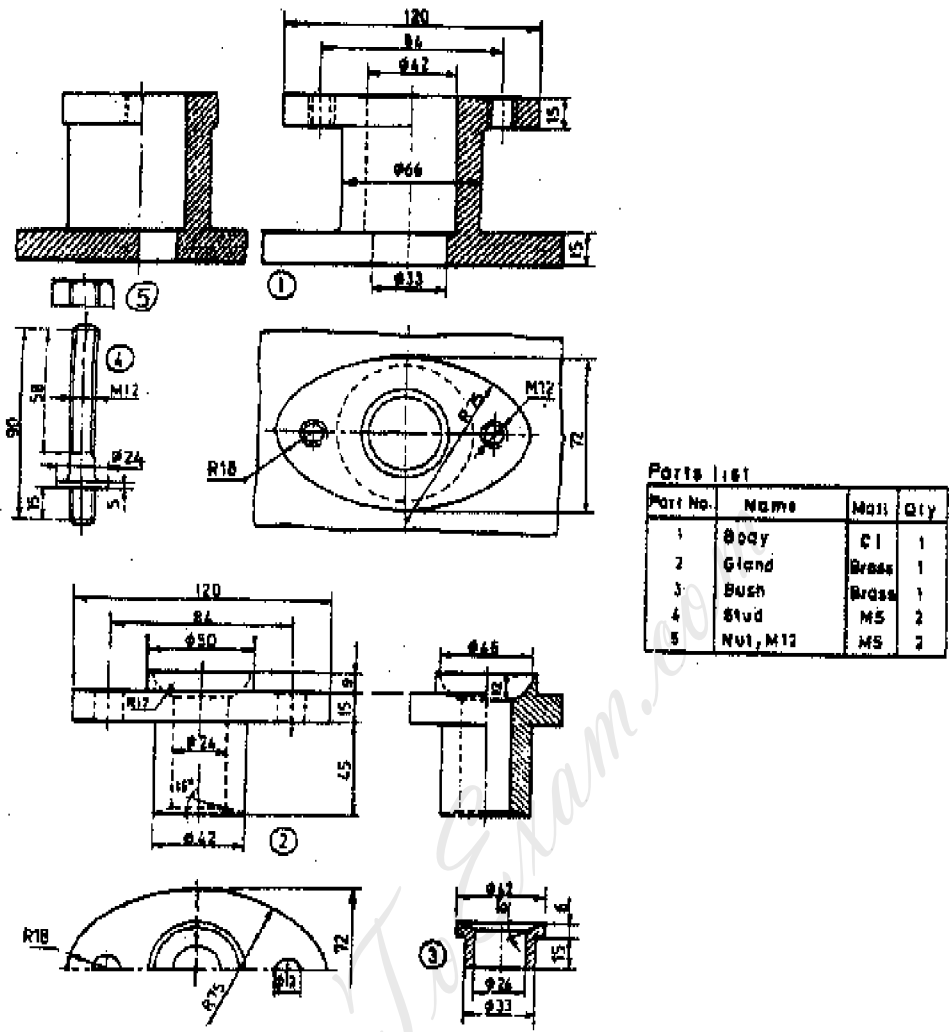

FIG. 1 (STUFFING BOX)
- 6 The following details of a stuffing box are given in fig. 1. 15